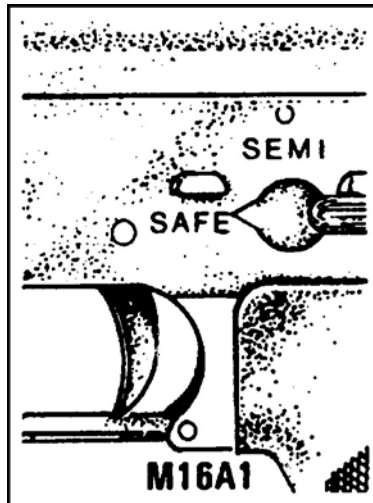

Figure 1. Selector lever on SAFE.
- d. Place the selector lever on SAFE (Figure 1).